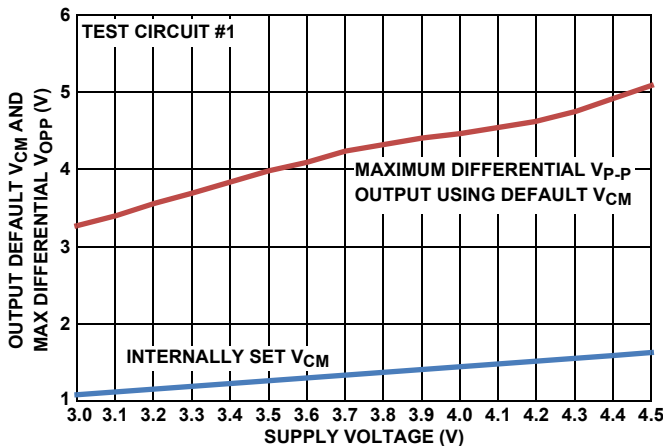
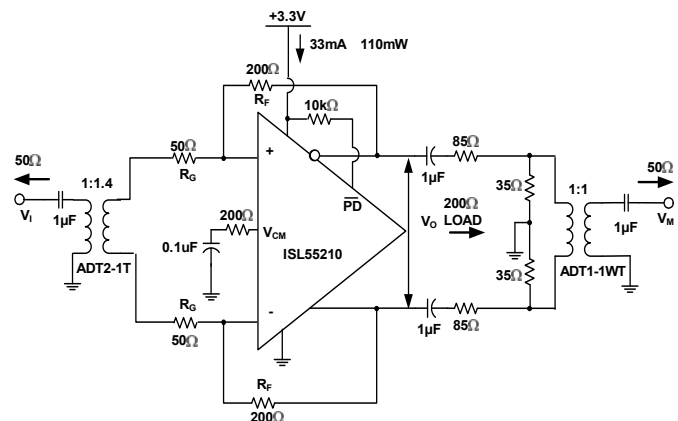

FIGURE 26. DEFAULT  $V_{CM}$  AND MAX  $V_{Opp}$  vs SUPPLY VOLTAGE
FIGURE 28. TEST CIRCUIT #1
The circuit of Figure 28 forms a starting point for many of the characterization curves for the ISL55210. Since most lab sources and measurement devices are single-ended, this circuit converts to differential at the input through a wideband transformer and would also be a typical application circuit coming from a single ended source. Assuming the source is a  $50\Omega$  impedance, the  $R_G$  resistors are set to provide both the input termination and the gain. Since the inverting summing nodes act as virtual ground points for AC signal analysis, the total termination impedance across the input transformer secondary will be  $2 * R_G$ . Setting this equal to  $n^2 * R_S$  will give a matched input impedance inside the bandwidth of the transformer (where "n" is the turns ratio). The amplifier gain is then set by adjusting the feedback resistors
Working with a transformer coupled input as shown in Figure 28, or with two DC blocking caps from a differential source, means the output common mode voltage set by either the default internal  $V_{CM}$  setting, or a voltage applied to the  $V_{CM}$  control pin, will also appear as the input common mode voltage. This provides a very easy way to control the ISL55210 I/O common mode operating voltages for an AC coupled signal path. The internal common mode loop holds the output pins to  $V_{CM}$  and, since there is no DC path for an  $I_{CM}$  current back towards the input in Figure 28, that  $V_{CM}$  setting will also appear as the input common mode voltage. It is useful, for this reason, to leave any input transformer secondary centertap unconnected. The internally set  $V_{CM}$  voltage is referenced from the negative supply pin. With a single 3.3V supply, it is very close to 1.2V but will change with total supply voltage across the device as shown in Figure 26.
Most of the characterization curves start with Figure 28 then get different gains by changing the feedback resistor,  $R_F$ , use different input transformers where then the  $R_G$  is also adjusted to hold an input match, or vary the loading. For load tests below the 200 $\Omega$  shown in Figure 28, a simple added shunt resistor is placed across the output pins. For loads >200 $\Omega$ , the series and shunt load  $R$ 's are adjusted to show that total load (including the 50 $\Omega$  measurement load reflected through the 1:1 output measurement port transformer) and provide an apparent 50 $\Omega$  differential source to that transformer. This output side transformer is for measurement purposes only and is not necessary for final applications circuits. There are output interface designs that do benefit from a transformer as part of the signal path, but the one shown at the right of Figure 28 is used only for characterization to get a doubly terminated 50 $\Omega$  measurement path going differential to single ended.
The characterization circuit of Figure 28 shows one possible input stage interface that offers several advantages. The ISL55210 can also support a DC coupled differential to differential or single ended input to differential requirement if needed. Where AC coupling is adequate, the circuit of Figure 28 simplifies the input common mode voltage control. If the source coming into this stage is single ended, the input transformer provides a zero power conversion to differential. The two gain resistors ( $R_G$  in Figure 28) provide both the input termination impedance and the gain element for the amplifier. For minimum noise, only  $R_G$  should be used and set to achieve the desired input impedance. Since the ISL55210 is a VFA device, these resistor values can be scaled up and down a bit more freely than a current feedback based FDA.
3.6VP-P output capability. The VP-P reported in Figure 26 is an asymmetrically clipped maximum swing. Going 10% above this 3.7V target to 4.1V will be within the recommended operating range and give some tolerancing headroom that would also suggest the VCM voltage be moved up to approximately 1.5V. This coincides with the default output VCM from Figure 26. Operating at +4.1V single supply in a Figure 28 type configuration will give the maximum linear available output swing of 3.6VP-P.
The differential inputs of the ISL55210 also have operating range limits relative to the supply voltages. Operating in an AC coupled circuit like Figure 28 will produce an input common mode voltage equal to the outputs. The inputs can operate with full linearity with this VCM voltage down to 1.1V above the GND connection (or -VS supply). On the default 1.2V output VCM on +3.3V supplies this gives a 100mV guardband on the input VCM voltages. Overriding the default VCM by applying a control voltage to the VCM pin should be done with care in going towards the negative supply due to this limit. On the + side, the maximum VCM above the -VS supply is 2V so there is more room to move the output VCM up than down from the default value.
Test circuit #1 (Figure 28) is implemented on an Evaluation Module Board available from Intersil. This board includes a number of optional features that are not populated as the board is delivered. The full EVM board circuit is shown in Figure 38 where unloaded (optional) elements are shown in green.